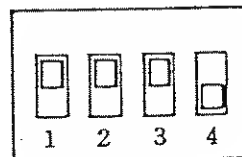

Figure 4.14
The standard switch setting (the setting for standard operation of the instrument, as set when the instrument is shipped) is as shown in Figure 4.14. By changing the settings of individual switches (1 - 4), settings can be made for the four different modes (1) - (4) as explained in the following. Since modes (1) - (4) are mutually independent, they can be set in any combinations as required.